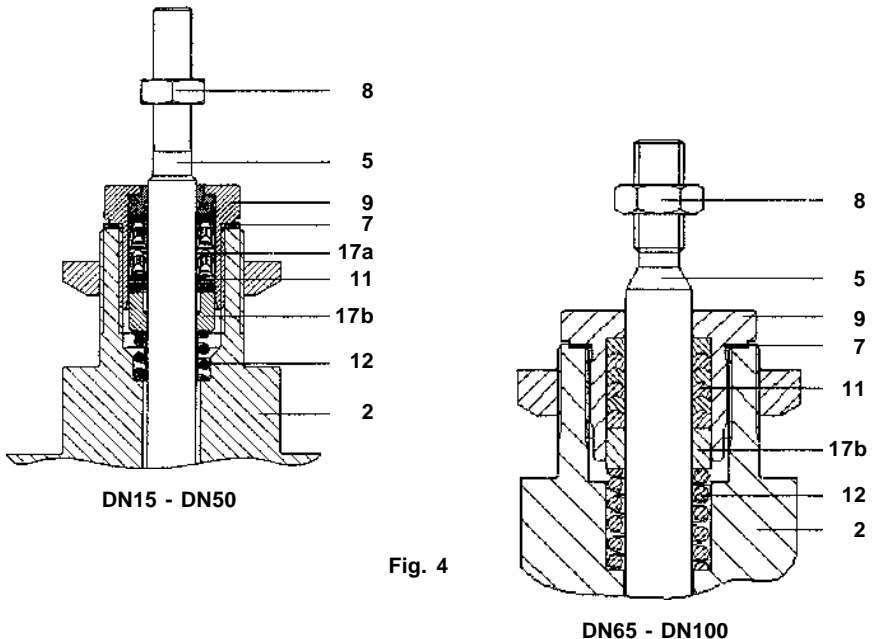

Fig. 4
- c) Remove the lock-nut (8).
- d) Unscrew the gland nut (9), withdraw the spring (12) from the stem; remove and discard the lower bush, gland seal set and the upper bush (17a + 11 + 17b), and the gland nut gasket (7).
- e) Examine the parts for signs of damage or deterioration and renew as necessary. Note that score marks or scaly deposit on the valve stem (5) will lead to the early failure of the seals. Clean the parts taking care to avoid scratching the stem or the inner surface of the gland nut. If the valve stem (5) needs to be replaced, see Sections 4.2.3 or 4.2.4.
- f) To renew the gland seal set, first fit the spring (12) over valve stem, and replace the gland nut gasket (7). The upper bush (17a only for valves DN15-DN50), the new gland seal set (11) and the lower bush (17b), must be firmly inserted into the gland seal nut (9), as indicated in Figure 4, care being taken to avoid damage to the sealing edges. Refit the gland nut (9) over the valve stem, screwing down with care to ensure the gasket is bedded down onto the bonnet. Tighten to the recommended torque as given in Table 1, page 15.
- g) Ensure the valve stem (5) moves freely.
- h) Refit the valve lock-nut (8).
#### 4.2.3 Procedure for renewing valve stem, plug and seats on mixing valves (Refer to figures 4, 5 and 6)
#### 4.2.4 Procedure for renewing valve stem, plug and seats on diverting valves (Refer to Figures 4, 5 and 7)